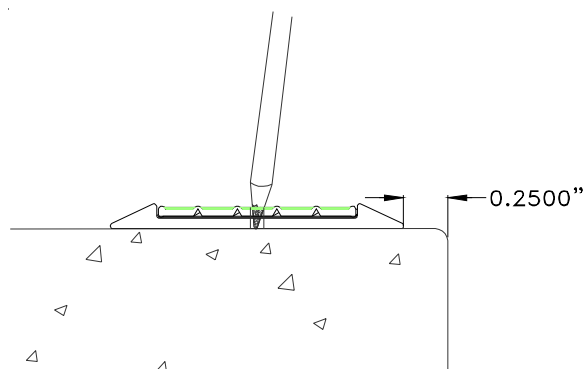

Figure 4
STEP 4. Apply a minimum 1/8" bead of construction adhesive (by others, Balco, Inc. recommends Bostik 1100 FS or equal) to the underside of the stair demarcation strip (Figure 4). Apply the adhesive to the full length of the nosing in a nominal 6" wide (crest to crest) zigzag pattern from front to back of the nosing.